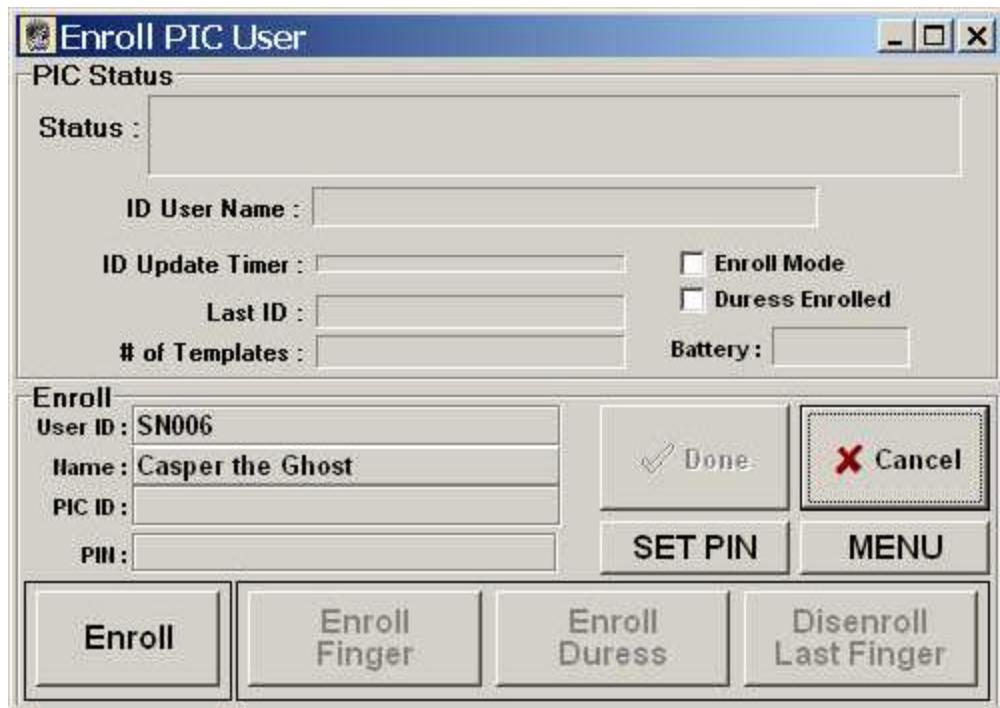

Figure 4 PICS Manager Enrollment Screen
- 2) The operator presses the **Enroll** button on the **Enroll PIC User** dialog box (Figure 4). This will bring up the **Start PIC Enrollment** dialog box. This box is an indication that the Enrollment Station is attempting to communicate with a PIC. If a PIC is on within communication distance, this dialog box will disappear immediately.